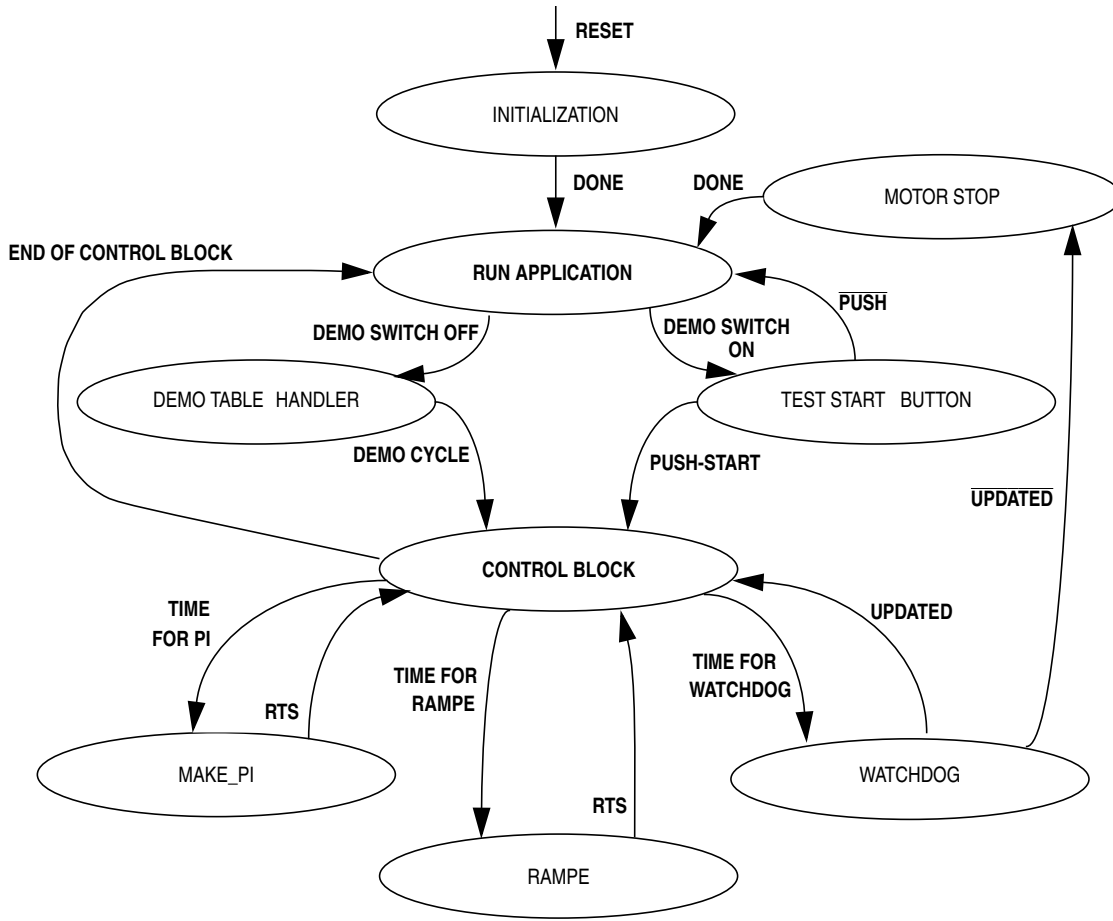

Figure 5. Program State Diagram
**Figure 5** shows a state diagram. The software consists of a control block and some subroutines like: MAKE\_PI, RAMPE, watchdog and interrupt services routines. The control block is, in fact, a relatively short loop which makes a decision on which subroutines will be called.